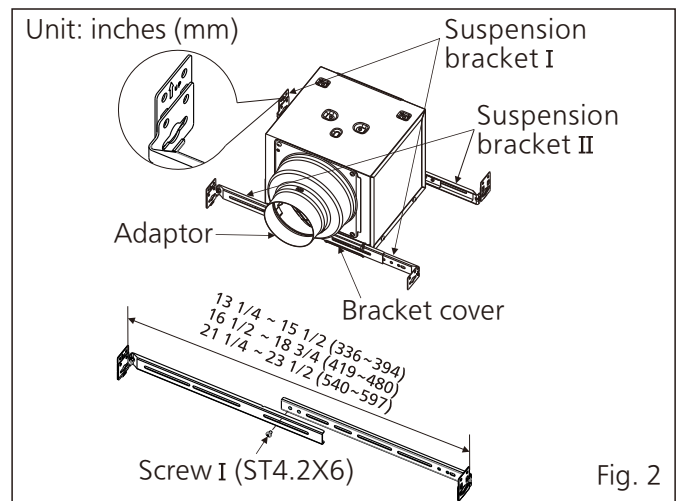

Fig. 2
1. Insert the suspension brackets into the luminaire body from each side of the bracket cover. (Fig. 2)
2. Fix suspension brackets I and II with screws I (ST4.2X6), but remember not to tighten the screws up yet. (Except that the spacing is 12 inches between joists.) (Fig. 2)